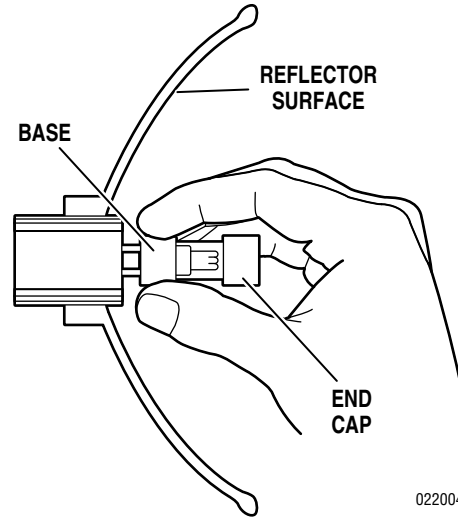

Figure 3-2.
b. Using caution not to touch the reflector surface, hold the bulb by the base and pull it out. See figure 3-2. Slightly working the bulb back and forth may aid in bulb removal.